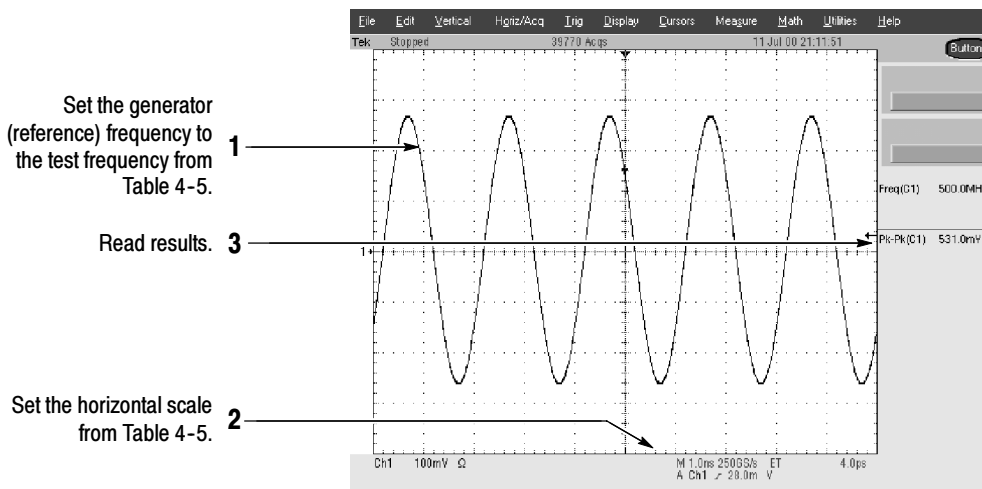

Figure 4-8: Measurement of analog bandwidth
- Set the frequency of the generator, as shown on screen, to the test frequency in Table 4-5 that corresponds to the vertical scale set in substep c. See Figure 4-8.
- Read the results at the CHx Pk-Pk readout, which will automatically measure the amplitude of the test signal. See Figure 4-8.